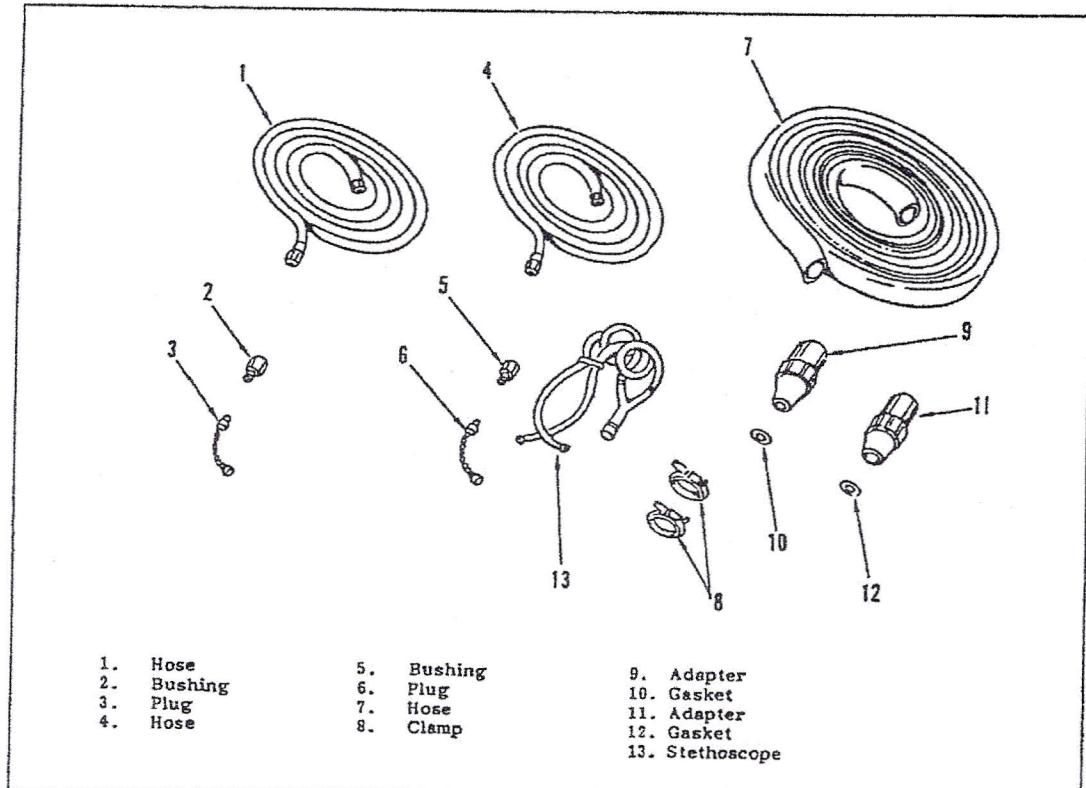

Figure 4-6. Accessory Equipment
4-15. CONNECTING TESTER TO AIRCRAFT. (See Figure 4-6). The tester is connected to the aircraft by three 25 foot hoses. One hose is a three-inch diameter hose (7) and the other two are small diameter rubber covered flexible hoses (1 and 4). The hoses are stowed on hose racks located in front of the tester. Make sure the three-inch hose is properly installed over outlet fitting before securing with clamp. Connect the tester to aircraft as follows:
- a. Uncoil and assemble the three-inch hose (7) to the tester air outlet connection.
- c. Connect hose (7) to the aircraft adapter.
- d. Use the hose clamps (8) to secure the hose at tester and aircraft adapter.
- f. Do not operate tester with free end of hoses (1, 4, or 7, Figure 4-6) free. Always remove hoses or secure free ends to prevent whipping.